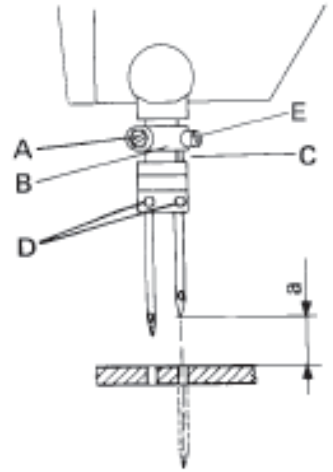

FIG. 1
1. Positioning Of the Needles (Fig.1)